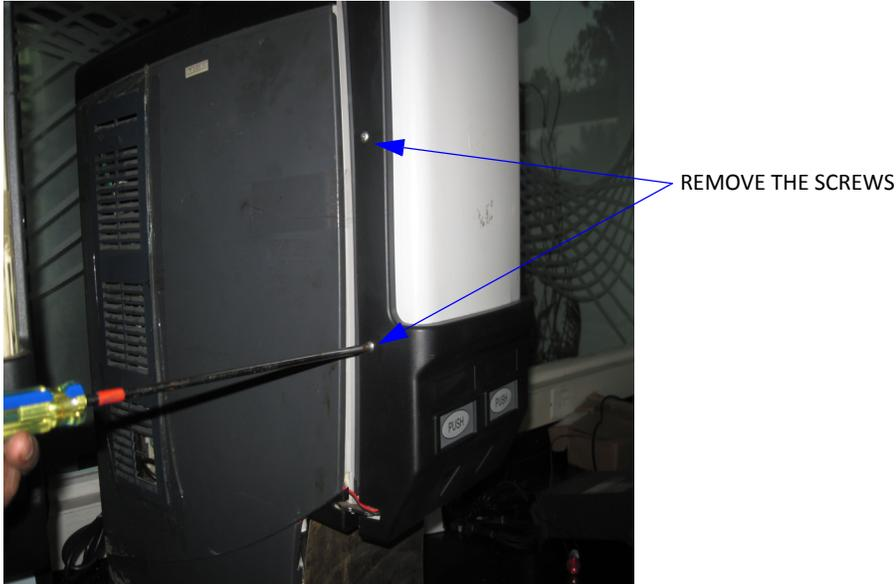

Figure 1.
- Remove the Screws around the merchandiser door (Top, Bottom, Left and Right side of the merchandiser) as shown in Figure 1.